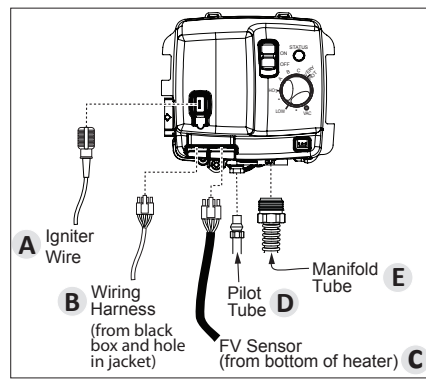

Figure 46 - Gas Control Valve Connections
- 6 Reconnect the manifold tubing (3/4" wrench), pilot tubing (7/16" wrench) to the gas control valve/thermostat. Also reconnect the FV sensor wires, wiring harness, and igniter wire (see Figure 46 for the correct position of each connection). Do not cross-thread or apply any thread sealant to the fittings.